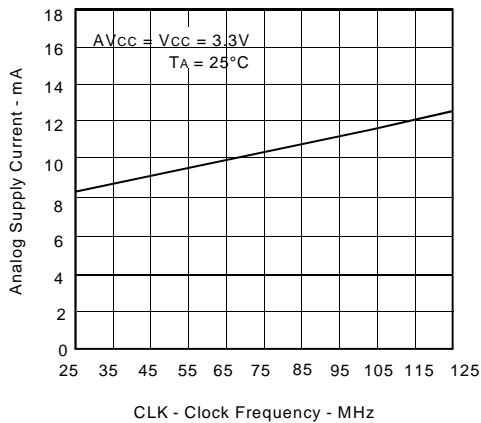

Figure 5.
2. For I_{CC} of AV_{CC}, see Figure 5.